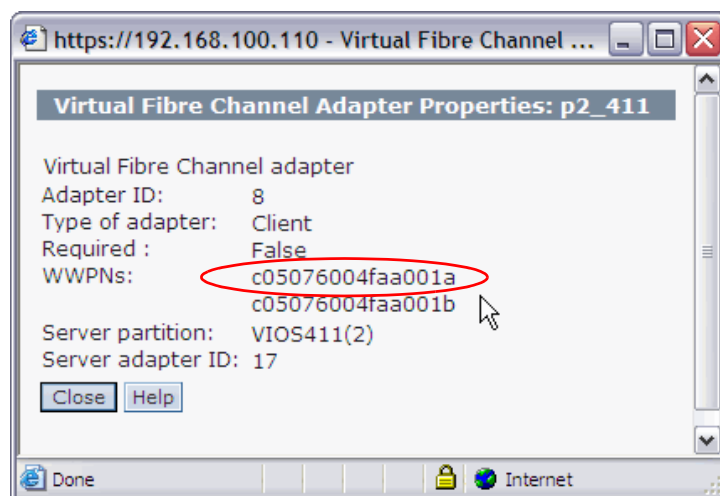

Figure 5-22 Virtual Fibre Channel Adapter Properties
The resulting panel displays the assigned WWPNs, as shown in Figure 5-22.
- e. Make a note of the WWPNs that are displayed (Figure 5-22), as they will be needed shortly. If you want the adapter and storage to be visible after the partition shutdown, save the configuration to a new profile and use the new profile when starting up the partition.